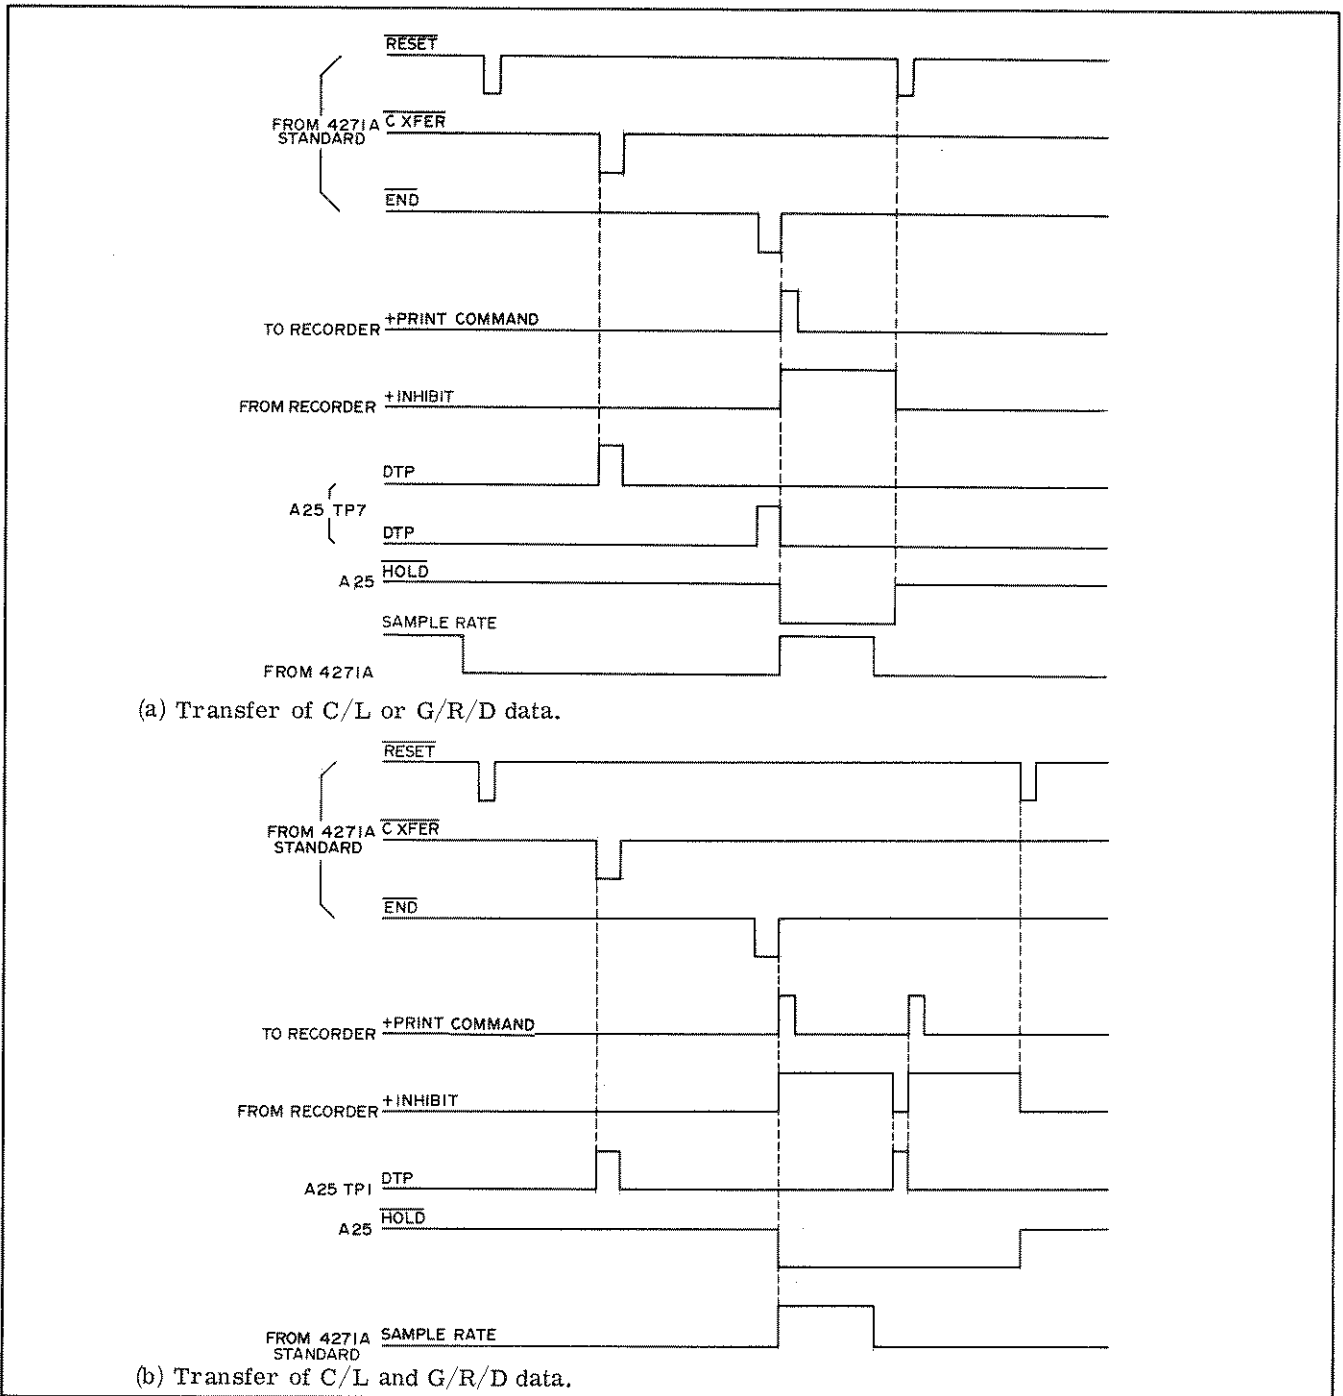

Figure 3-19. Timing Diagram: OPT 004.
c. The timing for option 004 is shown in Figure 3-19.